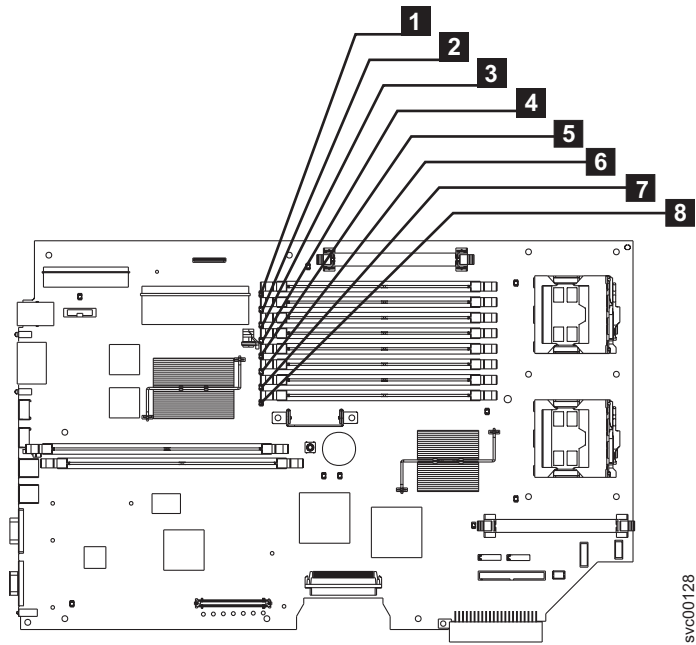

Figure 81. Locating the SAN Volume Controller 2145-8F2 or SAN Volume Controller 2145-8F4 memory modules
- SAN Volume Controller 2145-8F4 or SAN Volume Controller 2145-8F2: These modules are numbered **1** through **8** , as shown in Figure 81 on page 100.